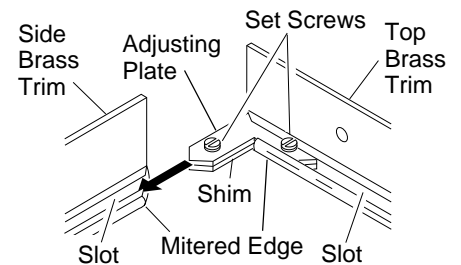

Figure 5 - Assembling Brass Trim
5. Slide other end of adjusting plate/shim in slot on mitered edge of side brass trim (see Figure 5).
3. Align shim under adjusting plate as shown in Figure 5.
4. Slide one end of adjusting plate/shim in slot on mitered edge of top brass trim (see Figure 5).